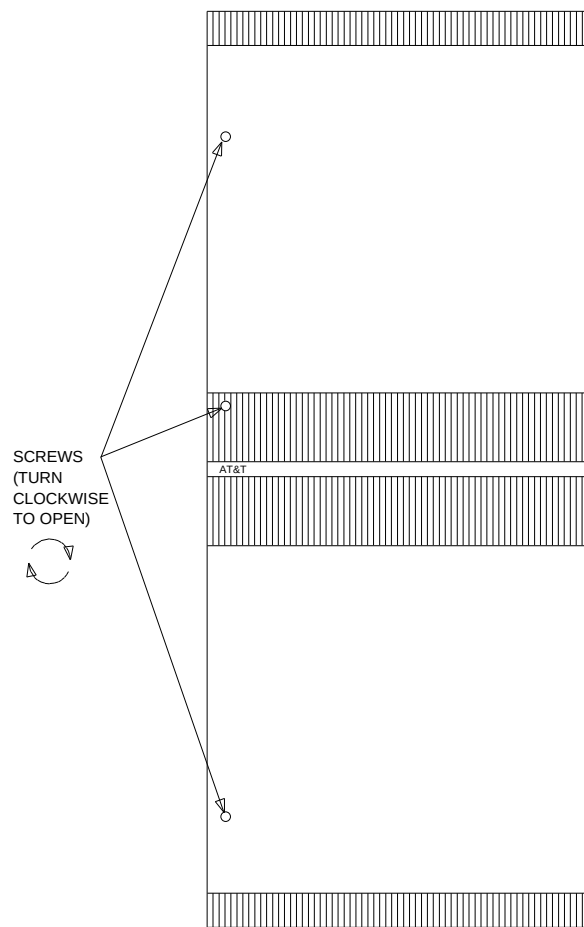

Figure 3-8. Location of Cabinet Door Latches (Front)
6. To open the cabinet doors, use a screwdriver to turn clockwise the screws located on the front and rear doors to release the door latches (Figures 3-8 and 3-9).